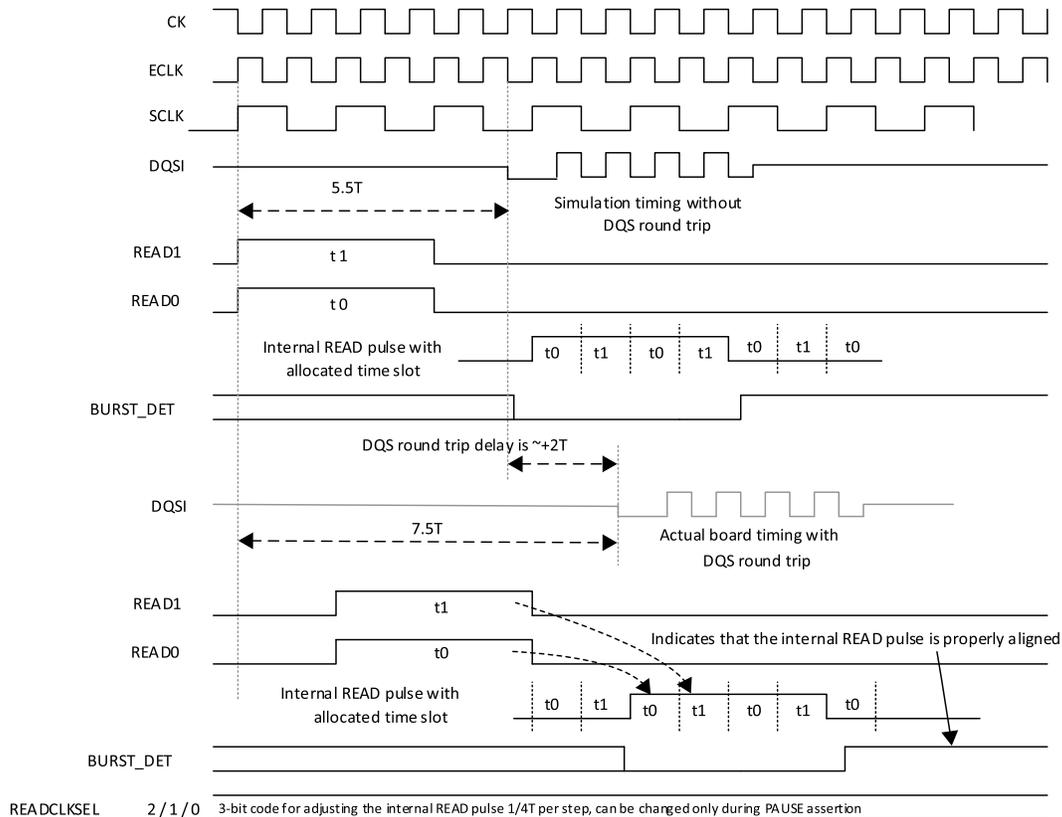

Figure 6.7. READ Signal Training Process
1. The memory controller sets READ1/0 to an initial position before starting the read pulse training. READ1/0 must be asserted for the number of SCLK cycles that is equal to one-fourth of the current read burst length, as listed in Table 6.3. Each READ bit (READ1 or READ0) in the system clock domain is translated to a 1T time slot of the memory clock domain, as shown in Figure 6.7.
3. To shift the READ pulse timing window, READ1/0 can be moved to the next cycle. If a READ bit is asserted in the next cycle while the other READ bit remains in the current cycle, only the corresponding time slot on the READ pulse moves to the next allotted slot. Therefore, only READ0 must be moved to the next cycle, if the READ pulse needs to be shifted only by 1T. However, if only READ1 is moved to the next SCLK cycle, then the READ pulse gets two short pulses in wrong timing. Since READCLKSEL2/1/0 covers a whole 2T timing, it is recommended that both READ1 and READ0 be moved to the next cycle together to shift the READ pulse to the next 2T window as the example shown in Figure 6.7.
Figure 6.7 shows an example of a burst length 8 (BL8) read operation. The bottom side of the diagram indicates the case that the incoming DQS (DQS1) gets slightly more than 2T delay after a round trip. Due to this round trip delay, both READ1 and READ0 need to be shifted to the next SCLK cycle so that the internal READ pulse gets a 2T shift. Then, the READCLKSEL2/1/0 signals can be used to fine-tune the READ signal position throughout the training process. When any of READCLKSEL2/1/0 is changed at any time after a system reset, the PAUSE input to DQSBUFM must be asserted before 4T of the change and remain asserted for another 4T after the change to avoid glitches and malfunction.